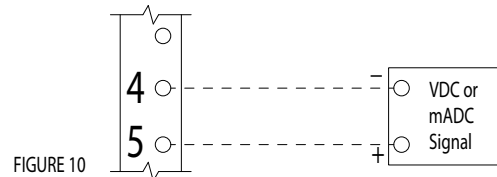
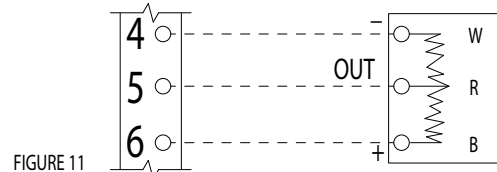

FIGURE 10
FIGURE 11
2. Control Input - Interpreted by the humidifier as a demand of output signal. Input device should be linear. Unit can accept any VDC or mADC signal within a range of 0-20 VDC or mADC (See Fig. 10). Unit may also accept a resistive signal 0-135 ohms (See Fig. 11).